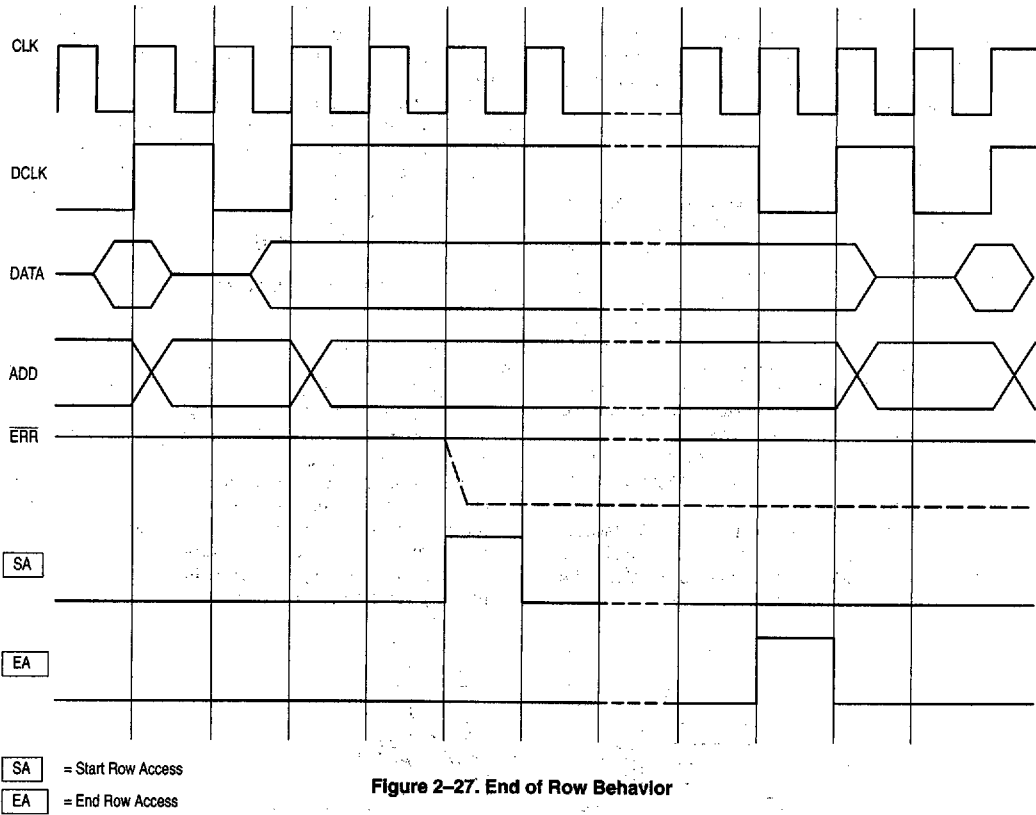

Figure 2-27. End of Row Behavior
first address is asserted coincident with the falling edge of MEMCE and the data bus is latched 2 configuration clocks later. The internal address counter is incremented on each positive DCLK edge (Figure 2-21). This process proceeds until an entire row of configuration data is loaded into the internal row data register and the ECB is verified. ADD[17:0] (current address) and DCLK (=1) hold while the internal write cycle takes place. Start Access (SA) marks the beginning of the write cycle and End Access (EA) marks write completion (Figure 2-27). After the write completes, the address presentation and data latching process resumes. When the entire device configuration is loaded, END is asserted, DCLK